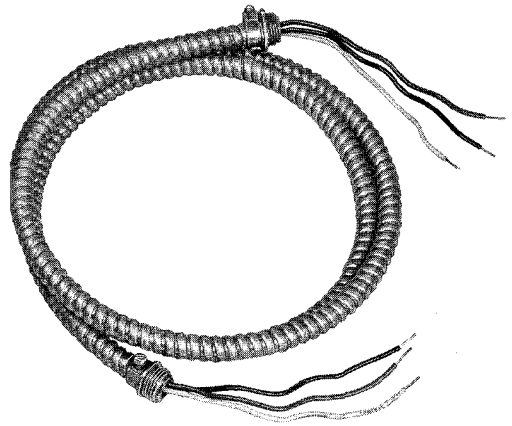

Fig. 5—KS-19425, List 24 Power Cable Assembly
- (b) **KS-19425, List 24 power cable assembly (Fig. 5)**. Used to bring power from the KS-19426, List 17 circuit breaker box